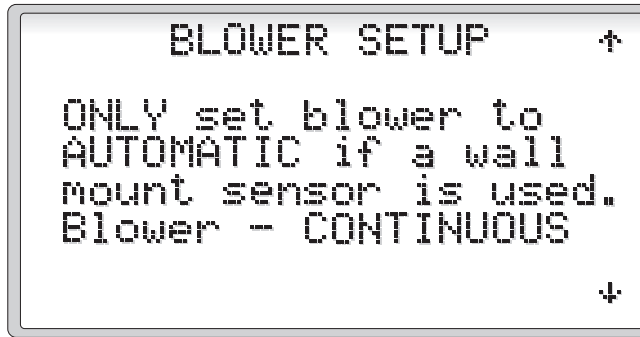

Figure 17
2.3.3.1.1 Configuration – Blower Setup (Figure 17)
Selecting the CONFIGURATION from the Commissioning Menu displays the BLOWER SETUP screen (Figure 17). The blower can be set for either CONTINUOUS or AUTOMATIC. Only set the blower to automatic if a wall mount sensor is used.